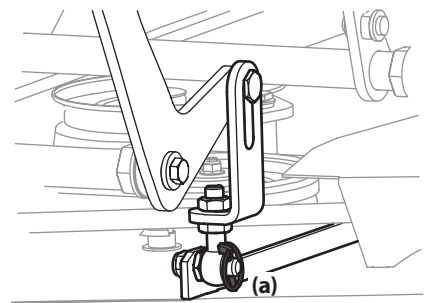

Figure 52
- Remove the four lynch pins (a) that secure the deck to the deck lift assembly. See Figure 52.